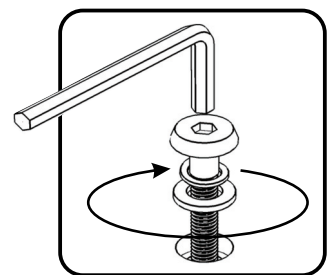

Figure 2
Attach Middle Panels (D) and (E) to Back Panel (F) with Flat Washers, Spring Washers and Head Cap Bolts. (See Figure 2)